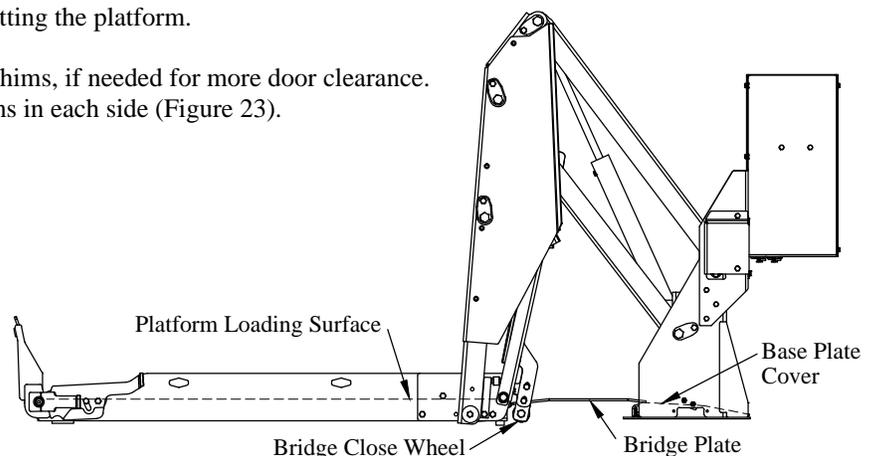

Figure 22: Platform and bridge plate.
3. **Check** if the platform loading surface is even with base plate cover (Figure 22).
4. **Position** the platform so that it is even with the top of the base plate cover (Figure 22).
4. **Raise** the platform as high as it will go with just the pendant toggle (Figure 22).